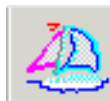

Figure 10-24. Save Button
25. You must then save the item record to the database. Click the **Save** button (Figure 10-24) to save the item record.